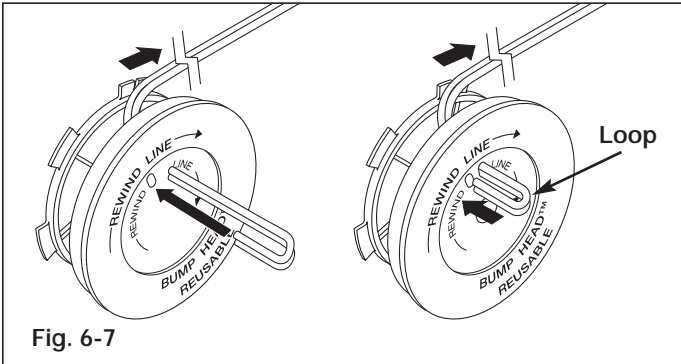

Fig. 6-7
9. Insert the end of the line into the open hole in the inner reel and pull the line tight to make the loop as small as possible (Fig. 6-7).